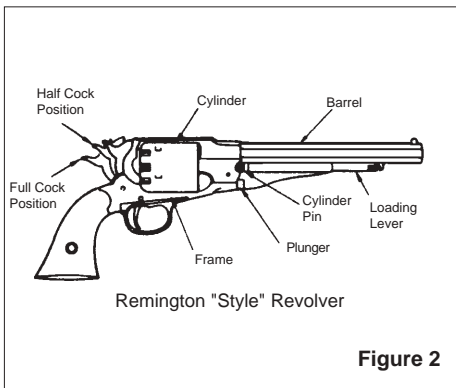

Figure 2
2. “Remington”-style revolver disassembly (See Figure 2):